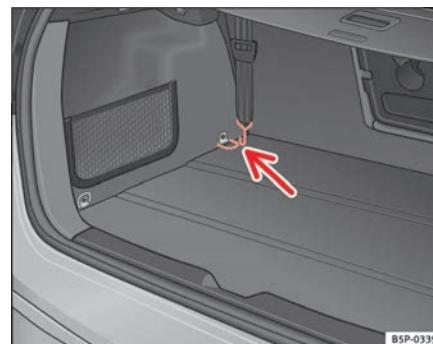

Fig. 127 Fastening rings to tighten the divider net
- Hook the seat belts into the fastening rings before tightening the retaining net ⇒ fig. 127. ■